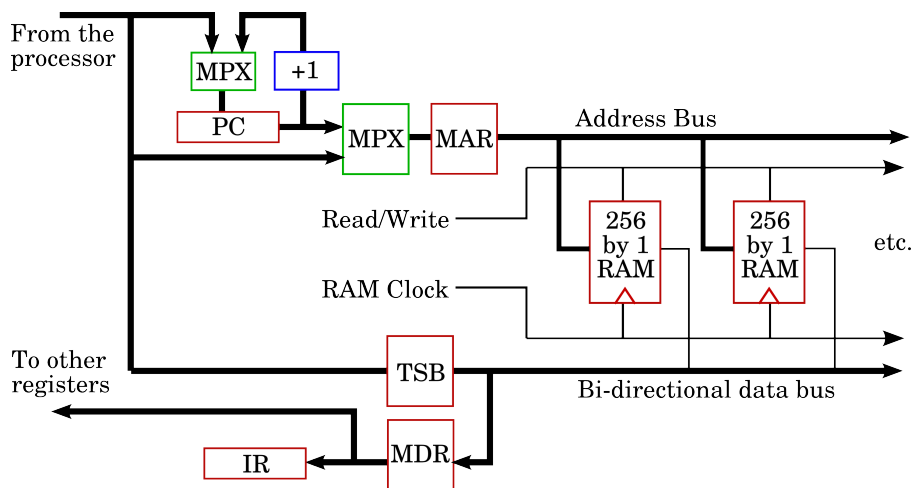

Figure 4: Connecting the Processor to the Memory
For the purposes of connecting some RAM to our processor we need to introduce special processor registers. One of these will hold the address that we wish to send to (or receive from), and this is the Memory Address Register (MAR). Another will hold the data received from the RAM, and this is called the Memory Data Register (MDR) or sometimes the Memory Buffer Register (MBR). The MDR is useful because in general fast RAM is low powered and cannot be connected to a large number of processor registers. Additionally we introduce two registers which are associated with getting program instructions (as opposed to data) from the memory. These are called the Program Counter (PC) which stores the address of the next program instruction to be executed, and the Instruction Register, which will act as a store for the program instructions. The IR (which we also showed in the data path diagram for the manual processor) will be decoded to determine the function of the central processor. The arrangement is shown in Figure 4. We have used a bi-directional data bus and the tristate buffer (TSB) can be enabled when writing to memory, but blocking when reading from the memory. Since we have opted to use 256×1 bit static RAMs we will need eight of them to store complete bytes of data. To keep things simple we will make the memory work in synchronisation with the system clock. To write data will require one clock cycle, and we assume that the memory logic is sufficiently fast so that we can read it within one cycle.